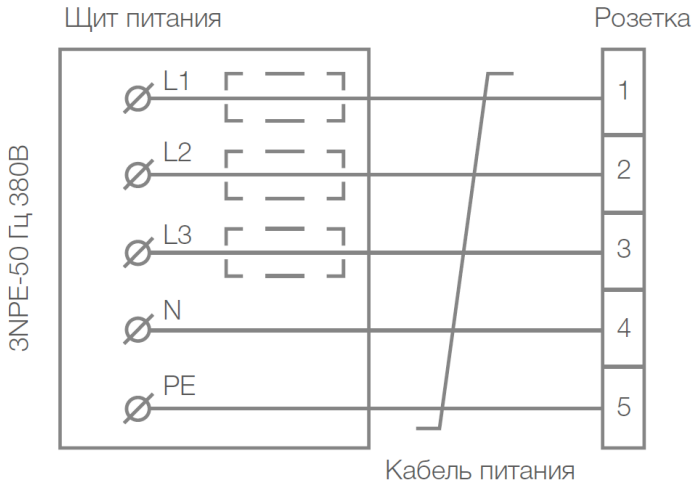

Fig. 4
2. To connect the device to the mains, connect the power outlet using a five-wire electric wire (not supplied) to the stationary power network according to the scheme shown in Fig. 4. Then connect the power outlet to the power plug of the device.